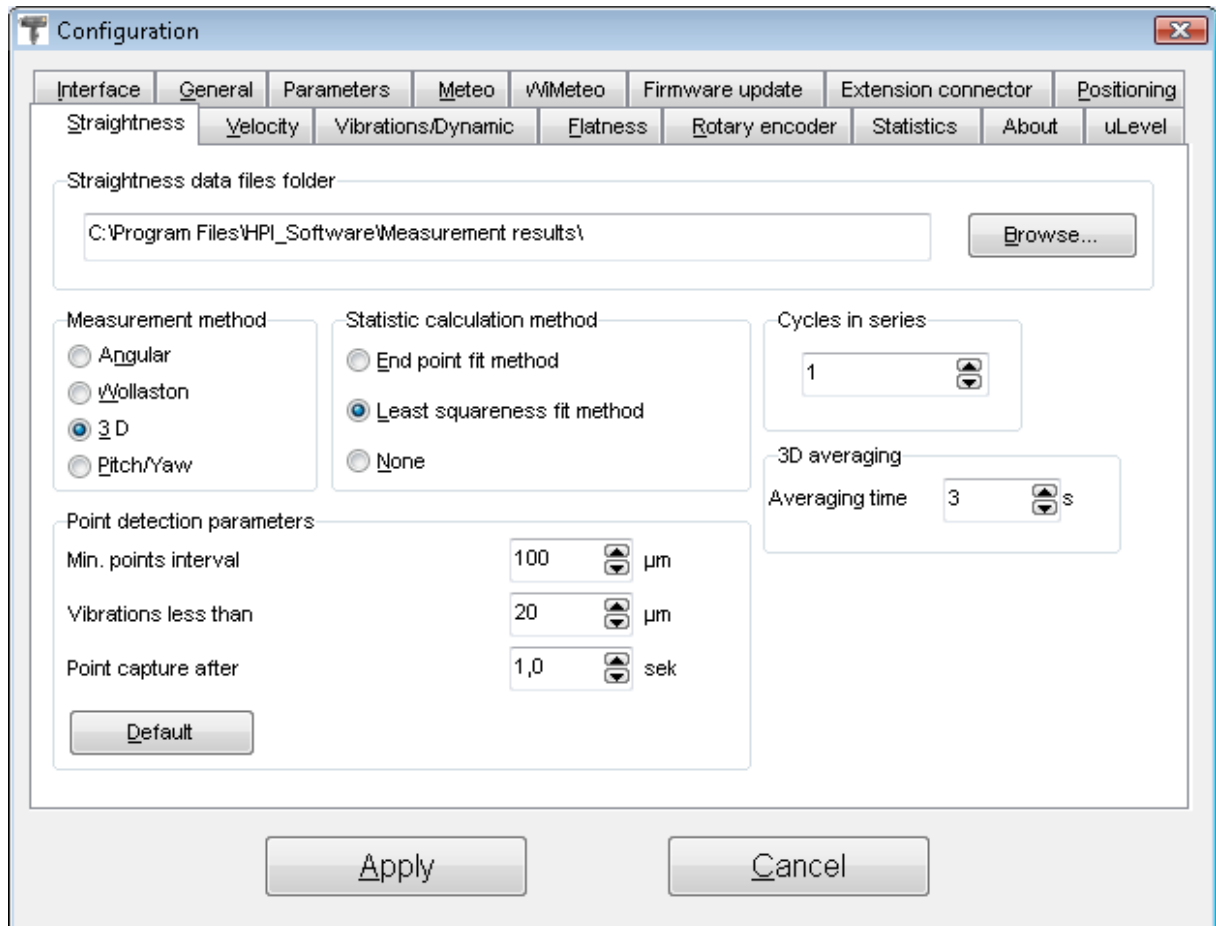

FIG. 7.36. STREIGHTNESS CONFIGURATION OPTIONS.
- **Configuration** – opens Configuration window as shown in the figure 7.36.